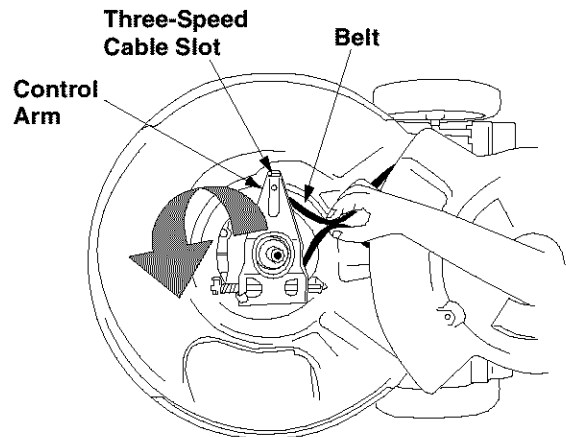

Figure 19
- Squeeze the belt together and push it forward, while pressing the control arm inward towards the deck and remove the three speed cable from the slot. See Figure 19.